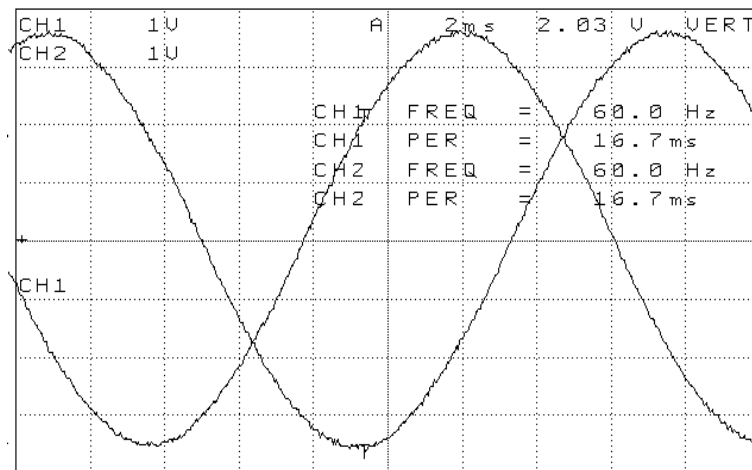

Figure 1.
- i. Attach 3Ø 115VAC to circuit card as follows: Line 1 to CP54, Line 2 to CP57 and Line 3 to CP60. Apply power and observe that NL1 and NL2 are illuminated. Observe TP8 and TP9 with oscilloscope and observe the following waveform (FIGURE 1). TP9 may be slightly higher; both have the same amplitude of approximately 6.8Vp-p to 6.9Vp-p. Also observe the same waveforms on JA45 and JA46.